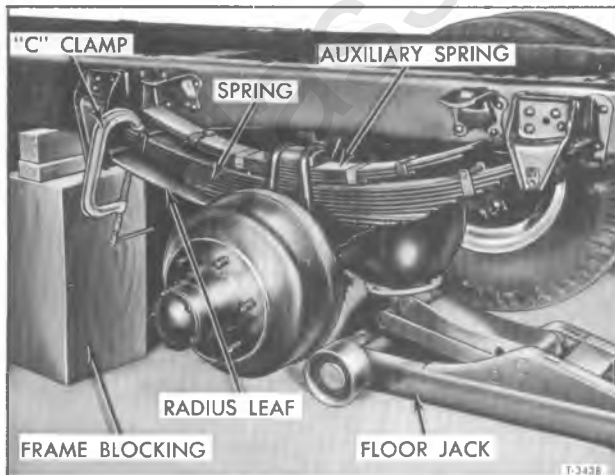

Figure 3—Using C-Clamp at Radius Leaf
3. Install a C-clamp on radius leaf as shown in figure 3, to relieve load on radius leaf eye bolt on 4500 Series vehicles.
5. On 40 Series, lower frame until ends of spring enter the hanger and touch the cam surface of hanger. Compress radius leaf with a C-clamp (fig. 3) until radius leaf eye and hanger holes are aligned.